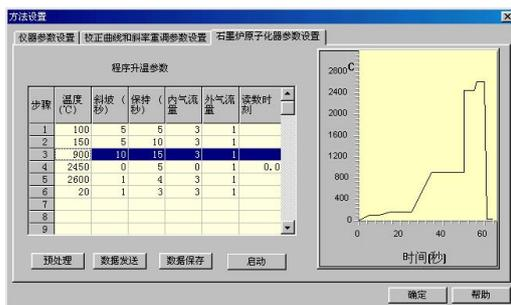

Figure 2-28a
- After the initialization open the interface of "Furnace Parameters Editor" (Figure 2-28a)